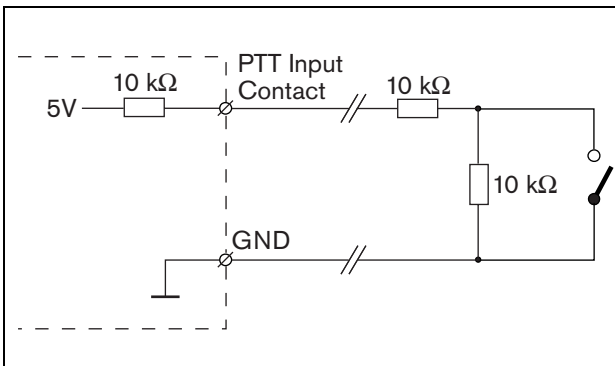

figure 21.8: Press-to-talk (PTT) key
- Press-to-talk (PTT) key. See figure 21.8 for a connection diagram. The two resistors must be placed in the circuit, because the contact is always supervised by the system software.